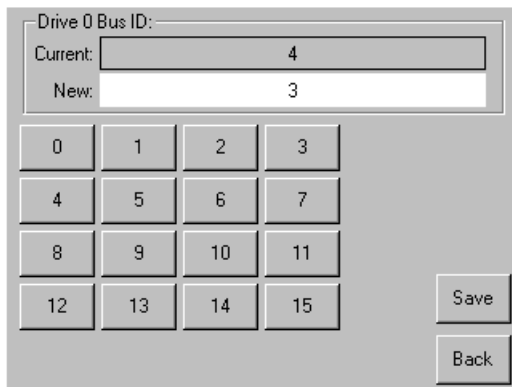

Figure 20: Drive 0 bus ID screen
- a. Select the box next to the text “Drive 0 Bus ID:.” The resulting screen (see Figure 20) displays the current Drive 0 Bus ID along with the new value that you request.